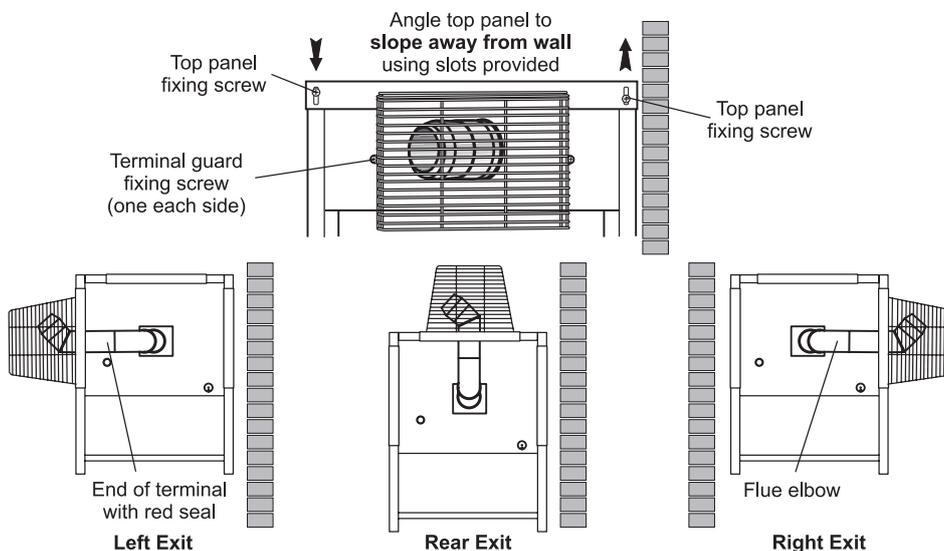

Figure 4-1: Standard low level flue provided
- The top panel of the casing has been designed so that it may be fitted to create a slight slope away from the side positioned against the wall. To tilt the top panel, loosen the four top panel casing screws and push down on the side furthest from the wall. Tighten the screws. See Figure 4-1.